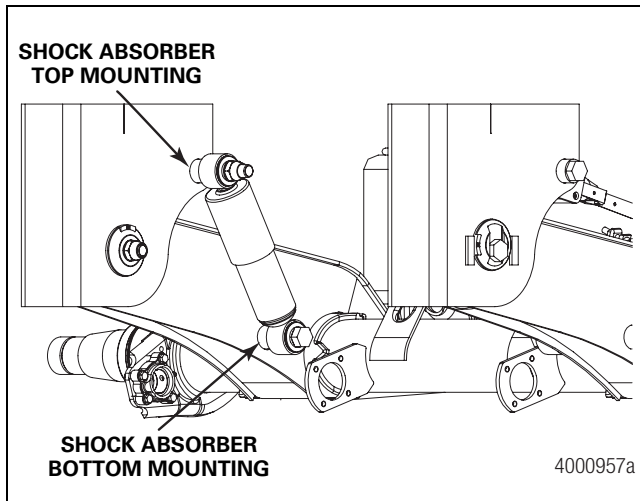

Figure 9.26
1. Check the shock absorber bushings for looseness and wear. Inspect the shock absorbers for oil leaks and dents. Replace worn or damaged shock absorbers. Figure 9.26.